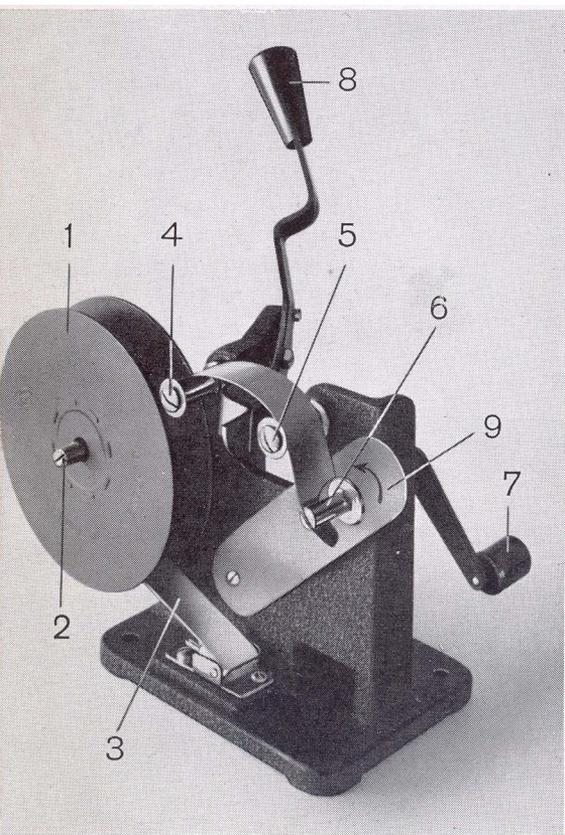
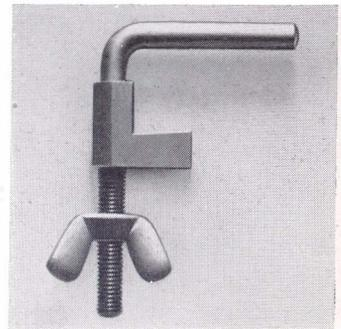

fig. 1
fig. 4
The spoolwinder can be attached to table or bench by a special clamp (fig. 4) or secured to it by means of four screws through the four screw-holes on the base. The film can be taken from regular reels up to 100 feet. If the available film does not already come on a standard metal spool it can be mounted on a special reel (1) composed of two discs which can be separated. Once the reel is disassembled, the film roll can be dipped on one disc and then assemble the other disc on it. These operations as well as all the following must be performed in total darkness. Reel (1) fig. 1, containing the film must be mounted on axle (2) after lever (3) has been lowered. The tail of the film, properly tapered, by the cutter (8) is passed through rollers (4) and (5) and finally inserted into the slit of axle (6).